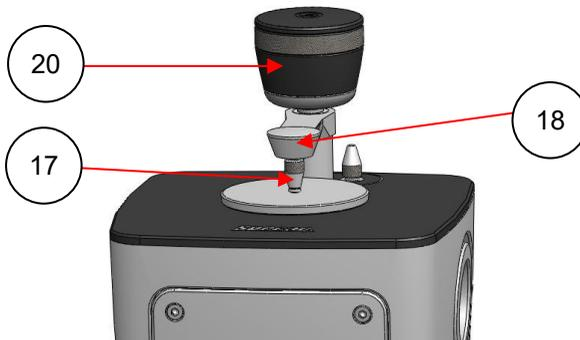

Figure 8-1: Clamp Arm Assembly with Flat Anvil in Sampling Position
When using the Quest ATR Accessory with a solid sample a load must usually be applied to ensure good contact between the ATR crystal and sample. To use: rotate the clamp arm assembly into the position shown in Figure 8-1, if necessary adjusting the height of the anvil (17) by adjustment of the Torque Knob (20). When in the correct position the arm will click into place. When not in use it can be rotated out of the way and will again click into the parked position.